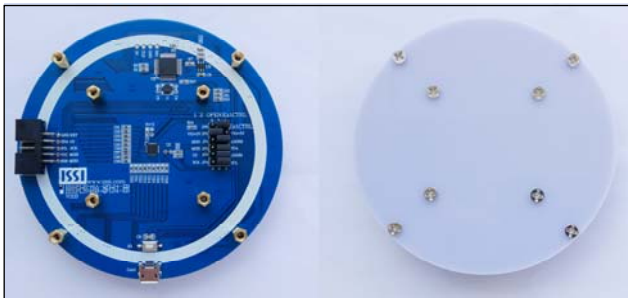

Figure 1: Photo of IS31FL3746A Evaluation Board
**Note 1:** The value of these resistors on the evaluation board is 20Ω. For PVCC=5V and red LED application, prefer 51Ω for these resistors as shown in datasheet Figure 1.